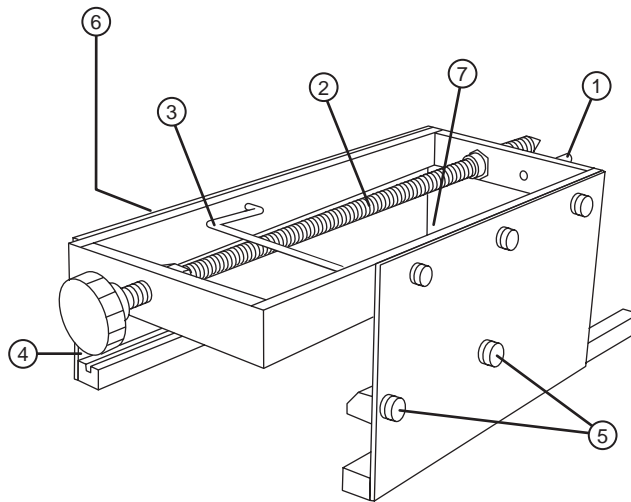
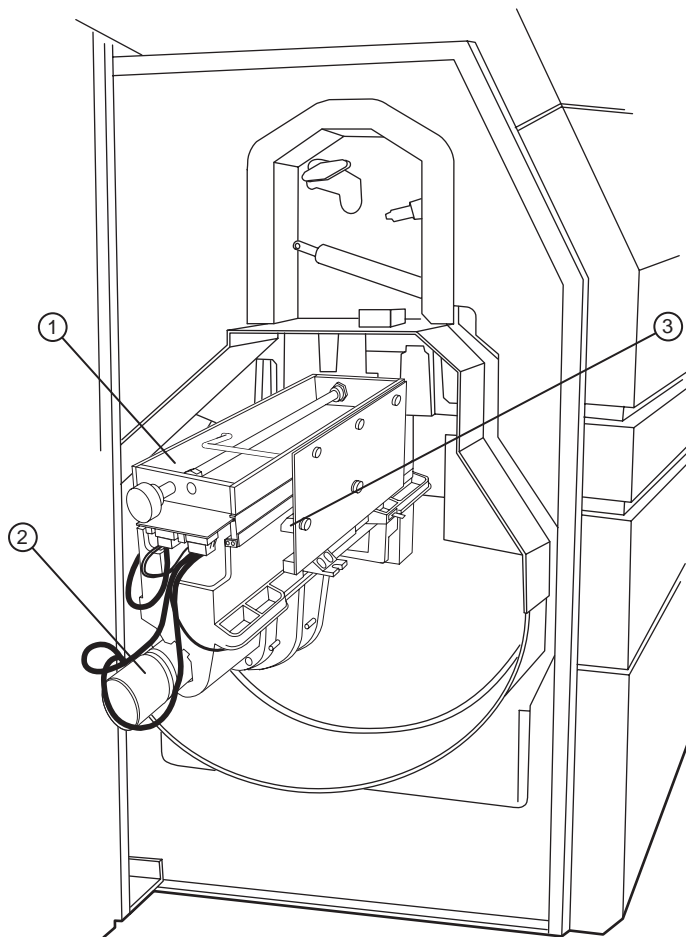

Figure 4-27 Carriage transfer tool.
Figure 4-30 Transfer tool and carriage assembly.
3. Remove the two (2) screws securing the left end carriage stop to the engine frame.
4. Assemble the Carriage Transfer Tool. Refer to Figure 4-27.
- ①—Alignment pin. ②—Screw. ③—Handle. ④—Carriage stop pin.
⑤—Retaining bracket screws (2 on each side). ⑥—Locking pin (2) not shown.
⑦—Left rail alignment pin .
5. Make sure that both the bearing and magnet retaining brackets are in the up position and that the screws are tightened on the transfer tool. Refer to Figure 4-27.
6. Make sure that the carriage locking pins are in the retract position (out) on the transfer tool. Refer to Figure 4-27.
- ①—Carriage board. ②—Spin motor assembly. ③—Analog encoder.
- ④—Analog encoder coupler.
9. Engage the locking pins on the side of the transfer tool. Refer to Figure 4-27.
10. Loosen the two (2) retaining bracket screws that hold the bearing retainer bracket in the up position on the transfer tool. Refer to Figure 4-27.
11. Tighten both retainer screws. Refer to Figure 4-27.
12. Loosen the two (2) retainer screws that hold the magnet bracket in the up position on the transfer tool. Refer to Figure 4-30.
①—Transfer tool. ②—Carriage assembly. ③—Magnetic transfer bracket.
14. Tighten both retainer screws. Refer to Figure 4-27.
1. Insert the carriage transfer tool pin into the hole on the engine upper structure frame and line up the pin on the transfer tool left rail with the hole in the carriage left rail. Refer to Figure 4-27.
4. Loosen the two (2) retainer screws that hold the magnet bracket in the down position. Refer to Figure 4-27.
5. Move the magnet bracket up and tighten the retainer screws. Refer to Figure 4-30.
6. Loosen the two (2) retainer screws that hold the bearing bracket in the down position. Move the bearing bracket up and tighten the retainer screws.
7. Disengage the two locking pins on the side of the transfer tool. Refer to Figure 4-27.